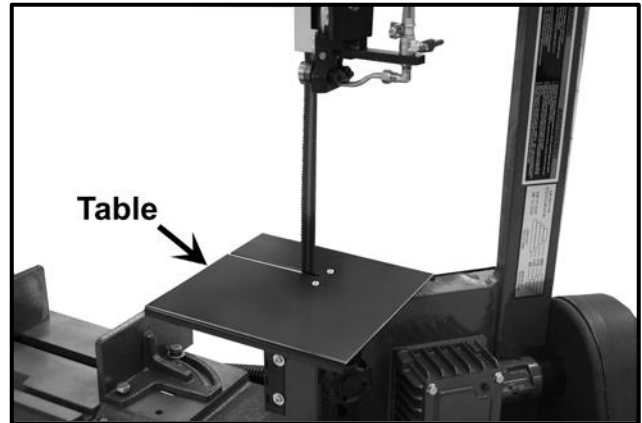

Figure-10 Installing the table
4. Guide the blade through slot in the table and secure the table with two screws. See figure-10.